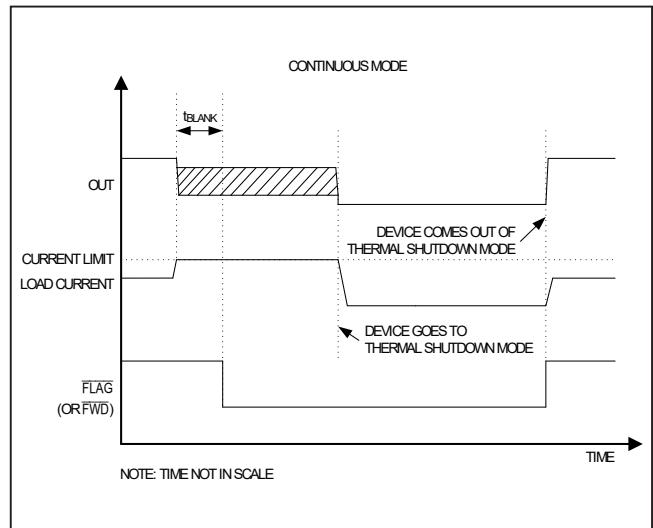
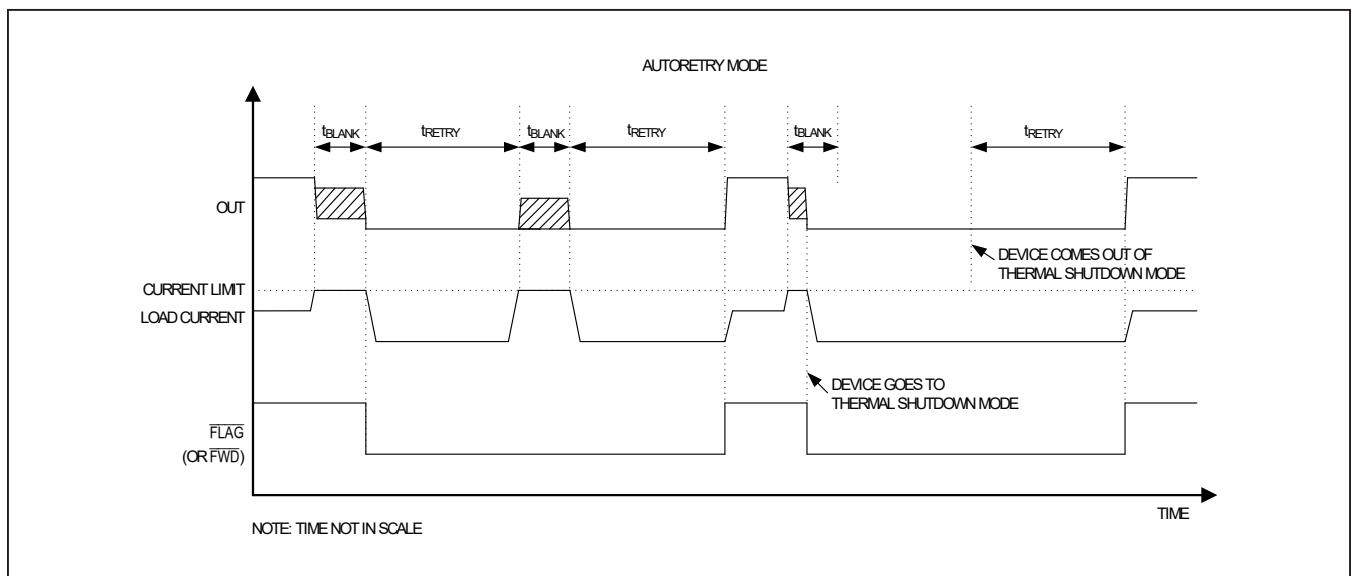
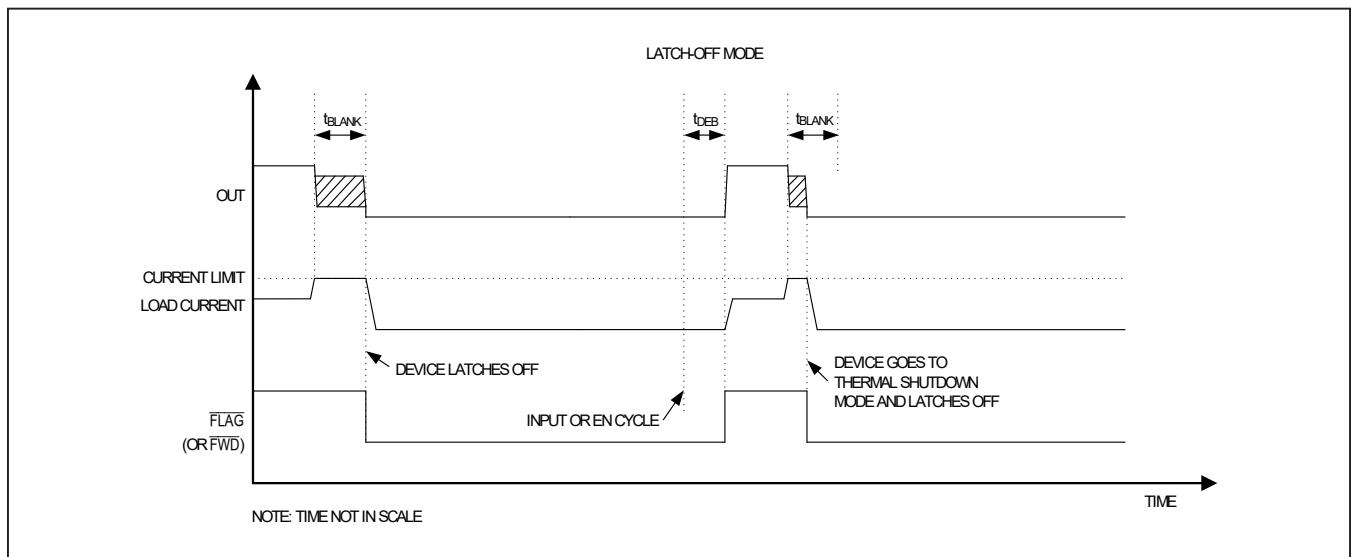

Figure 4. Continuous Fault-Timing Diagram
Figure 3. Autoretry Fault-Timing Diagram
Figure 5. Latch-Off Fault-Timing Diagram
With a 40ms (typ) t_{BLANK} and 600ms (typ) t_{RETRY} , the duty cycle is 6.25%, resulting in a 93.75% power reduction when compared to the switch being on the entire time. Figure 3 depicts typical behavior in the autoretry current-limit mode.
In continuous current-limit mode, when current through the device reaches the current limit threshold, the device limits output current to the programmed current limit. The FLAG (or FWD) pin asserts if overcurrent condition is present for t_{BLANK} and deasserts when the overload condition is removed. Figure 4 depicts typical behavior in the continuous current-limit mode.
In latch-off current-limit mode, when current through the device reaches the current-limit threshold, the t_{BLANK} timer begins counting. The \overline{FLAG} (or \overline{FWD}) pin asserts if an overcurrent condition is present for t_{BLANK} . The timer resets when the overcurrent condition disappears before t_{BLANK} has elapsed. The switch turns off and stays off if the overcurrent condition continues beyond t_{BLANK} . To reset the switch, either toggle the control logic (EN) or cycle the input voltage. Figure 5 depicts typical behavior in latch-off current-limit mode.
The thermal limit behaves similarly to the current limit. In autoretry mode, the thermal limit works with the autoretry timer. When the junction temperature falls below the falling thermal-shutdown threshold, devices turn on after the retry time. In latch-off mode, the devices latch off until power or EN is cycled. In continuous mode, the devices only disable while the temperature is over the limit. There is no blanking time for thermal protection. Figure 3, Figure 4, and Figure 5 depict typical behavior under different current limit modes.